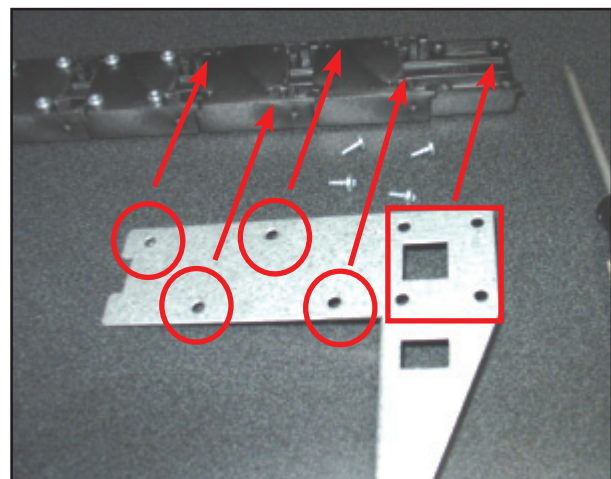

Figure 7
4. Remove screws attaching metal cover brackets to blocks, (see figure 7) retain screws and set cover bracket aside. Extension length is determined before shipment, depending on unit. Blocks snap together to form extension length, (five blocks for 10-inch/two blocks for five-inch extension, depending on unit model). Secure with Torx screws.
5. Once completed, slip extension arms inside slots on both sides of upper end at rear of dispenser. Secure arms to unit by attaching metal cover bracket using four (4) Torx screws supplied in shipment and removed in an earlier step, (see figure 7, 8).